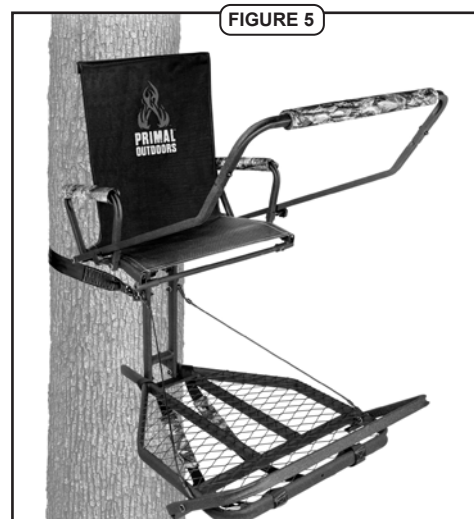

FIGURE 5
**STEP 5** View of the tree-stand once installed on the tree. (See Fig.5)